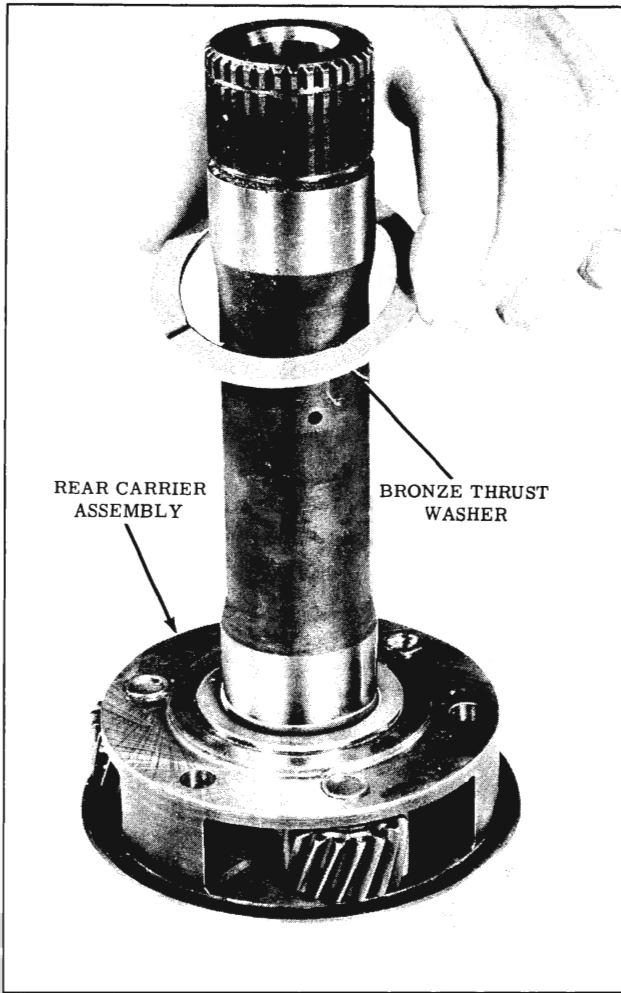

Fig. 3-296 Rear Carrier Thrust Washer
14. Install rear carrier to rear internal gear bronze thrust washer over carrier shaft. (Fig. 3-296)